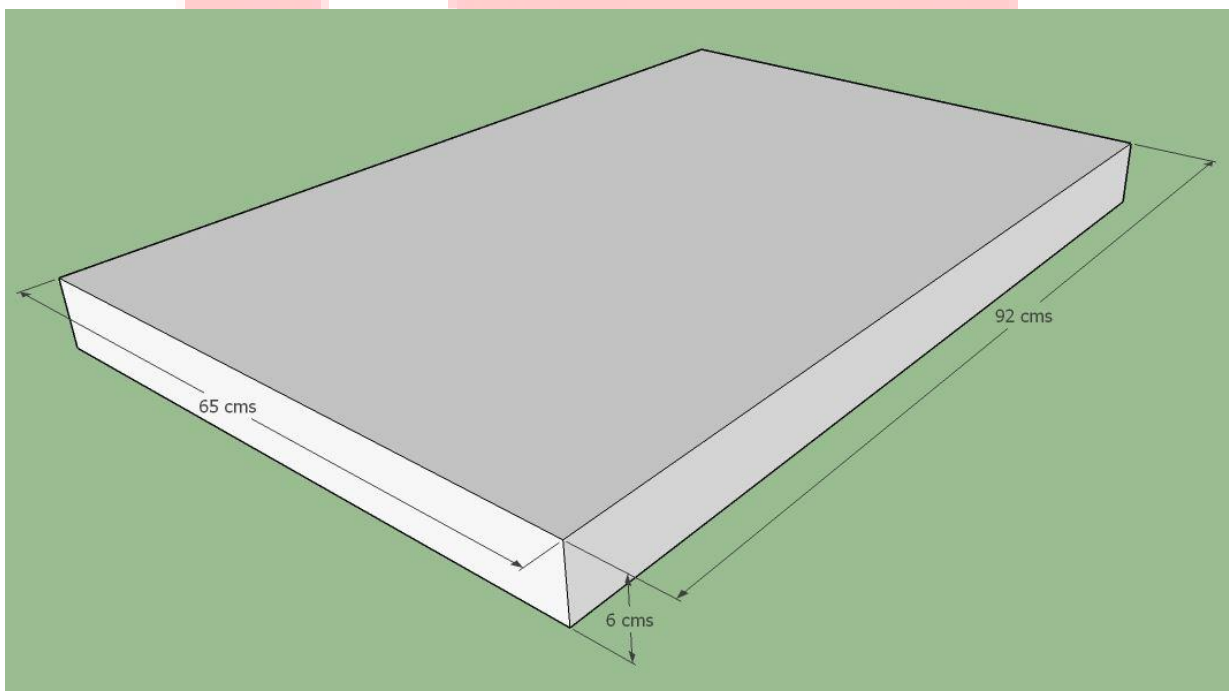

Figure 8: Crater Thermocol Cut-out
- Cut a thermocol sheet of dimension **92cm x 65cm x 6cm** for Crater Region as shown in Figure 8.